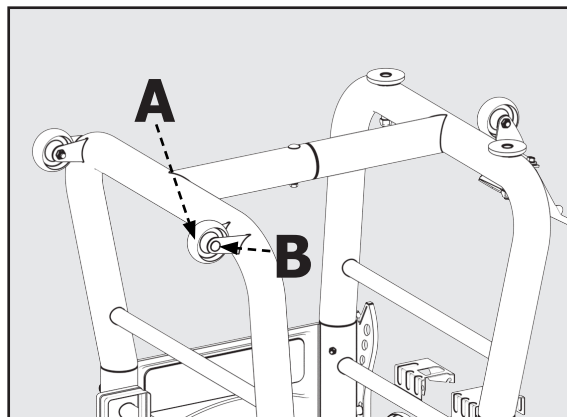

FIGURE 2
1. Attach the two fixed wheels (A) to the two left leg, opposite the pivot caster, using the M8 x 53mm Carriage Screw as in Figure 2.
4. Modify the two Adjustable Feet (C) by screwing them in and out of the leg. The feet may be adjusted to level the saw and locked in place by tightening the M12 nut on the top. See Figure 2.